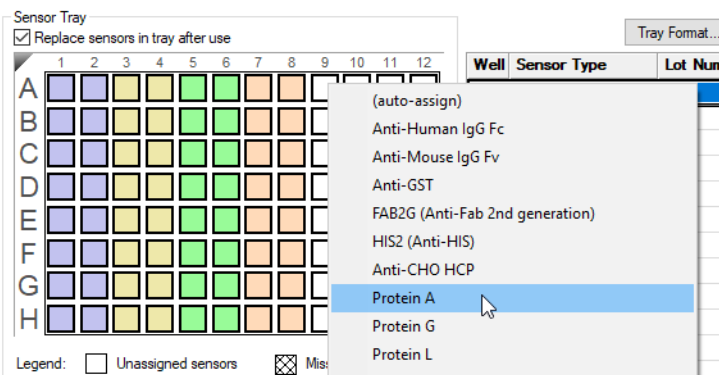

Figure 7-51: Populating the Sensor Tray Map with First Biosensor Type
3. Select **all** columns with default biosensor assignments in the **Sensor Tray Map**, right-click and select the first biosensor type to be used (see Figure 7-51).